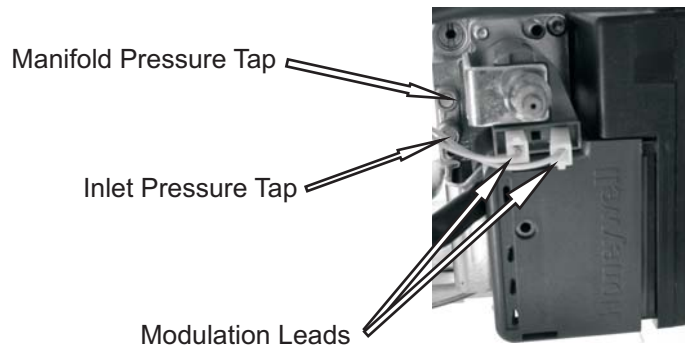

Figure 12.6: Gas Pressure Taps
- b) Loosen the screw in the gas inlet tap on the gas valve and connect a manometer (see Figure 12.6).
- e) Connect a manometer to the manifold (outlet) pressure tap on the gas valve (Figure 12.6).
- h) Check the low fire manifold pressure. To do this, turn off the boiler and remove one of the modulation leads (Figure 12.6). Turn the boiler back on. Read the low fire manifold pressure. It should be set at: